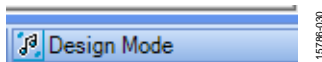
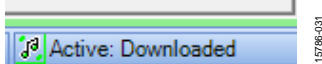

Figure 30. Design Mode and Blue Status Bar
Figure 31. Active Downloaded Mode and Green Status Bar
2. The status bar turns from blue to green, and the mode displayed changes from **Design Mode** to **Active: Downloaded** in the lower right corner of the window (see Figure 30 and Figure 31). Until this point, **SigmaStudio** is in design mode, as denoted by the blue bar at the bottom of the screen and the words **Design Mode** displayed in the lower right corner of the **SigmaStudio** window (see Figure 30).